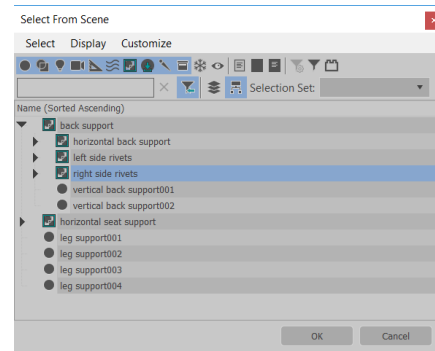

Figure 2-91 The right side rivets group selected in the **Select From Scene** dialog box
4. In the **Select From Scene** dialog box, select *right side rivets* and choose the **OK** button, refer to Figure 2-91.